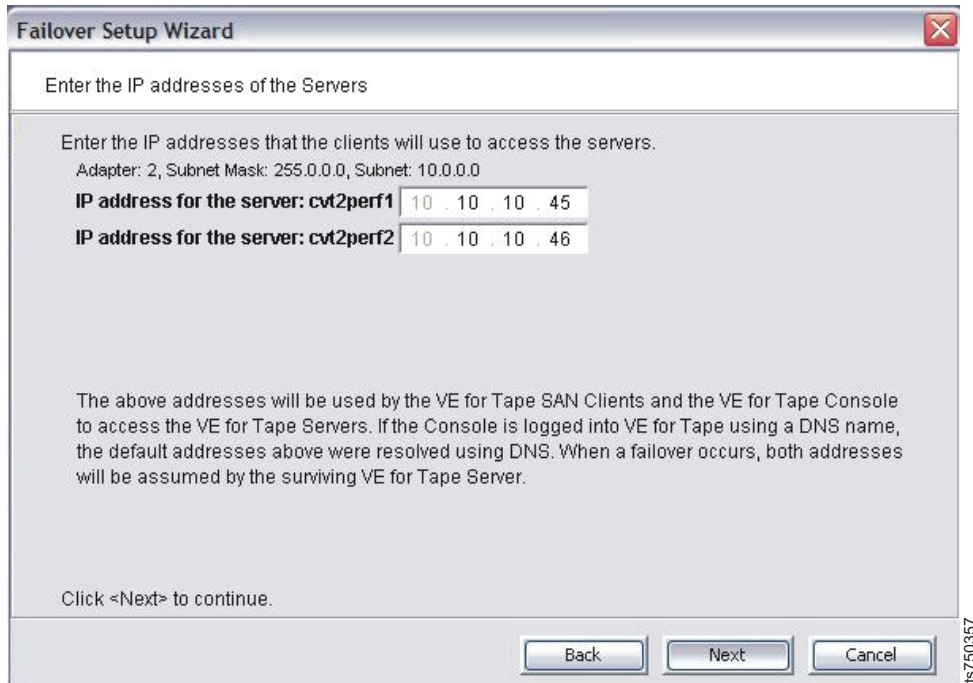

Figure 61. Entering or confirming network interface IP addresses for adapter 2
- ___ 13. In the Enter the IP addresses of the Servers (Adapter 2) window (Figure 61 on page 78), do the following: